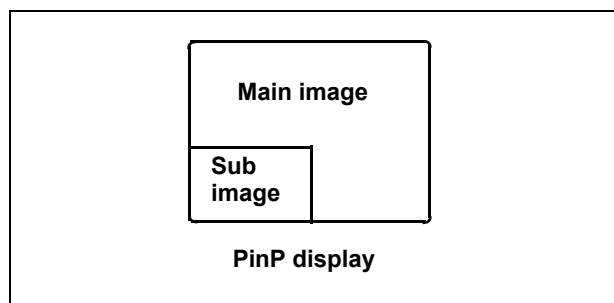

Figure 5.3
3. Press the “PinP” button. The sub image appears on the monitor (see Figure 5.3).